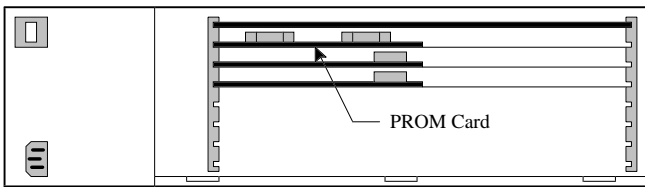

Figure 4 - Location of PROM Card in Computer
4. Remove the PROM Card (see Figure 4) by pulling on the two tabs fastened to the front edge of the card. (Observe standard handling practices for static sensitive components.)